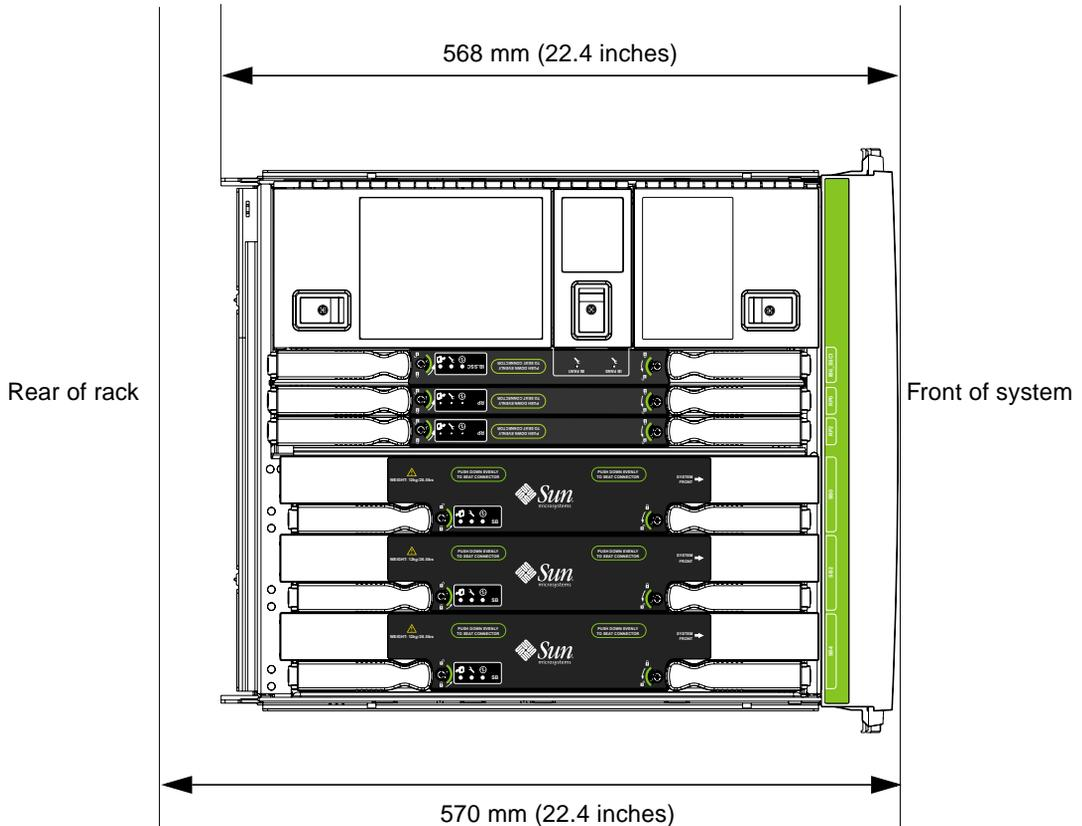

FIGURE 4-2 Minimum Rack Depth Requirement
1. Minimum = 570 mm (22.4 inches) (refer to FIGURE 4-2)